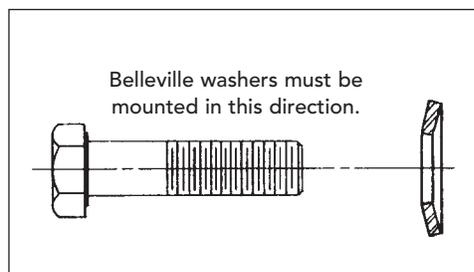
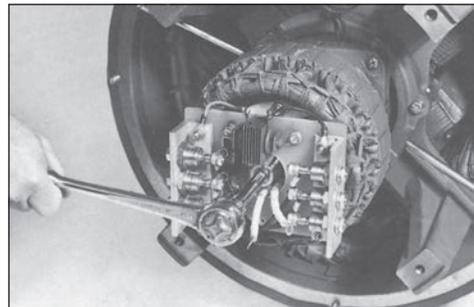
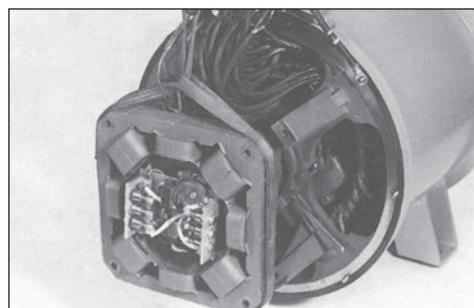

Figure 6-72
Figure 6-73
Figure 6-75
Insert the capscrew and belleville washer (figure 6-72) through the mounting hole in the aluminum standoff plate and secure to the shaft (figure 6-73). Tighten the capscrew until the armature seats on the shaft. Torque to 84 ft-lb (114 N-m) for 1/2" bolt or 300 ft-lb (407 N-m) for 3/4" bolt.
3. Position the exciter field leads at the left (9 o'clock) inboard position. Using a suitable lifting device, mount the exciter stator on the front end bracket mounting pads and align the mounting holes (figure 6-75). Mount with the capscrews and belleville washers (figure 6-72). Torque the capscrews to 60 ft-lb (81 N-m). Route and secure the exciter stator leads away from any moving parts.